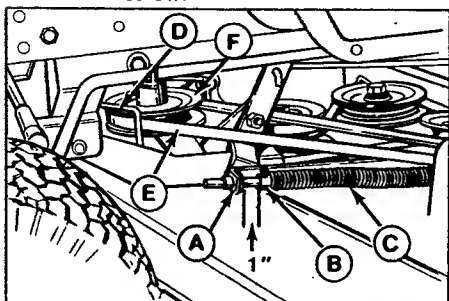
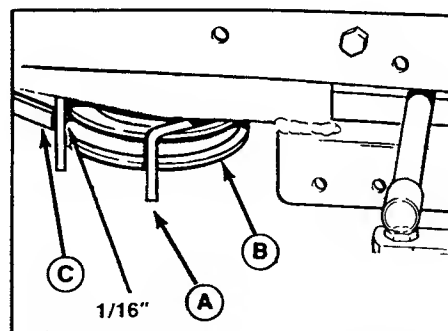

Figure 29. Mower Drive Belt Tension Adjustment - 42" & 48"
Figure 30. Right-Hand PTO Pulley Belt Stop
2. Measure the distance between the PTO rod guide (A, figure 29) and the set collar (B). The distance should measure one inch. If not, proceed to step 3.
4. Loosen the setscrew in the set collar (B). Move the rod forward to increase gap, or backward to decrease gap. Retighten the setscrew.
There are two belt stops at the PTO pulley; one on the left (D, figure 29) and one on the right (A, figure 30). With the PTO lever engaged, measure the distance between the belt stop and the belt. There should be 1/16 inch (1.5 mm) clearance between each belt stop and the belt. To adjust a belt stop, loosen its mounting capscrew, move the belt stop, and retighten the capscrew. Recheck the measurement.